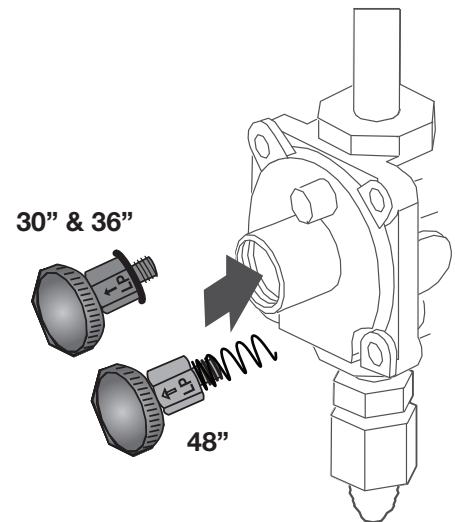

Figure 12
- 6 Screw the regulator cap back into the regulator and re-attach it to the nipple and flare union as shown. DO NOT over-tighten (see Figures 12 and 13).